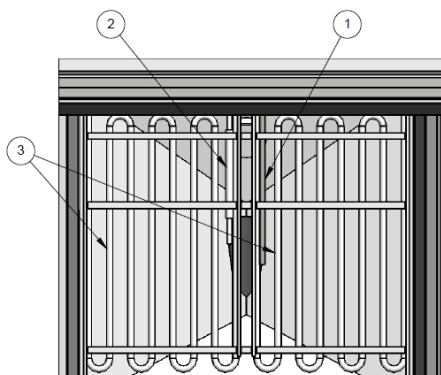

Figure 1.7.1 Frypot view SELV14
- ✓ Ensure that high temperature limit probe(s), item 2 in figures 1.7.1 & 1.7.2 below are in place and secure as shown below. Ensure the temperature control probe(s) (item 1) is positioned properly as shown.
- ✓ Ensure the heating elements (3) are free to move up out of the frypot without hitting any structures or other items above the fryer.